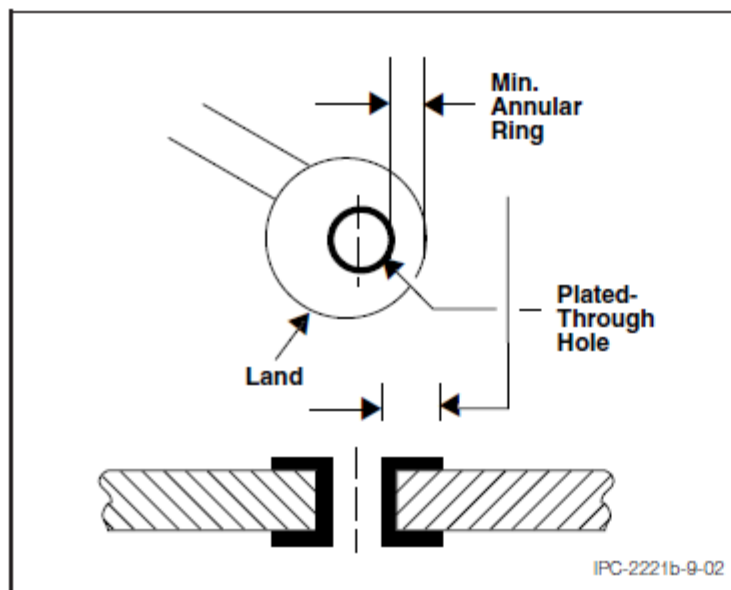
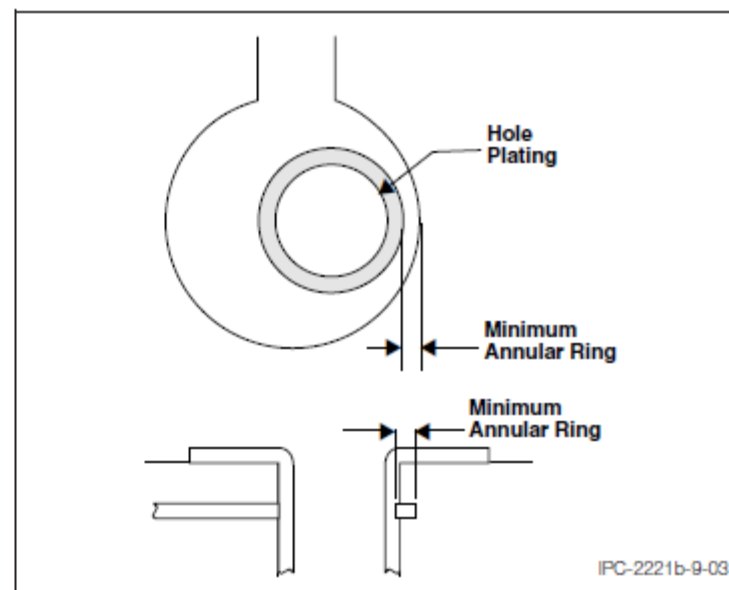

Figure 9-2 External Annular Ring
Figure 9-3 Internal Annular Ring
The minimum annular ring on external layers is the minimum amount of copper (at the narrowest point) between the edge of the hole and the edge of the land after plating of the finished hole (see Figure 9-2). The minimum annular ring on internal layers is the minimum amount of copper (at the narrowest point) between the edge of the drilled hole and the edge of the land after drilling the hole (see Figure 9-3).
9.1.2.1 External Annular Ring The minimum annular ring for unsupported and supported holes shall be in accordance with Table 9-2 and Figure 9-2.
9.1.2.2 Internal Annular Ring The minimum annular ring for internal lands on multilayer and metal core printed boards shall be in accordance with Table 9-2 and Figure 9-3. Etchback, when required, will reduce the insulation supporting the annular ring of internal lands. The minimum annular ring considered in the design shall be not less than the maximum etchback allowed.